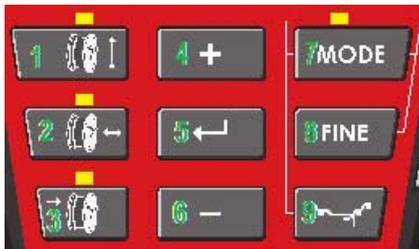

Figure 14
See (Figure 14). Pressing the weight selection button (9) will toggle the LED's to the weight default selections as shown. Balancing using a combination of hammer-on and adhesive weights as shown.